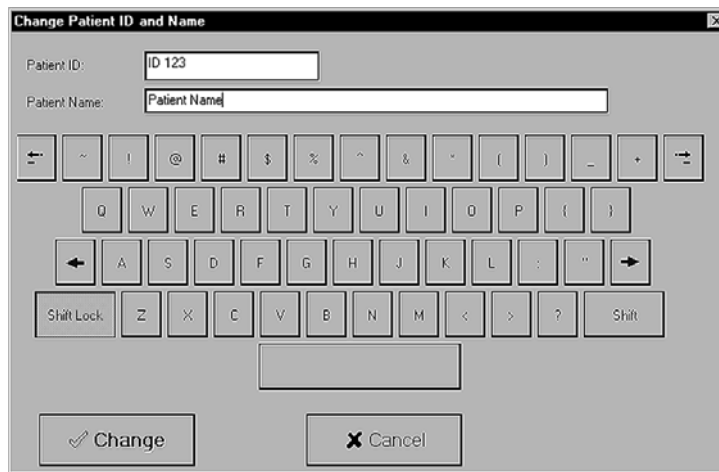

Figure 4.11 HeartTouch Computer “Patient Information Screen”
- 4.2.28 Touch the **General** tab and then touch **Change Patient Information** to enter the patient name and ID. A keyboard touchscreen is displayed. Touch each key to spell the patient's name (or initials) and ID number, then press **Change** and **Yes** to accept. The patient's name is then displayed on the touchscreen monitor and is used to set up file names and folders for event logs on the HeartTouch computer (**Figure 4.11**).